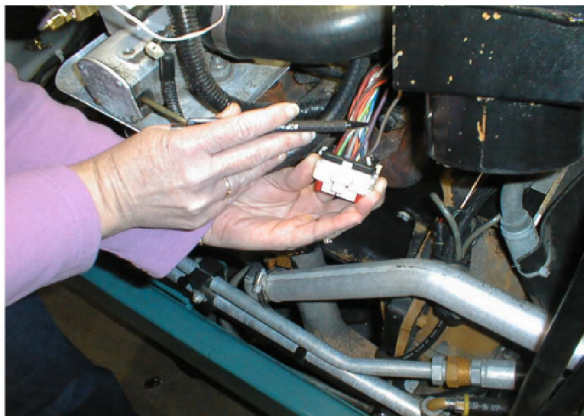

FIG. 3
5. Measure and mark a point 1 1/2" from the connector end of the brown wire in **pin #2**. Refer to Fig. 3.